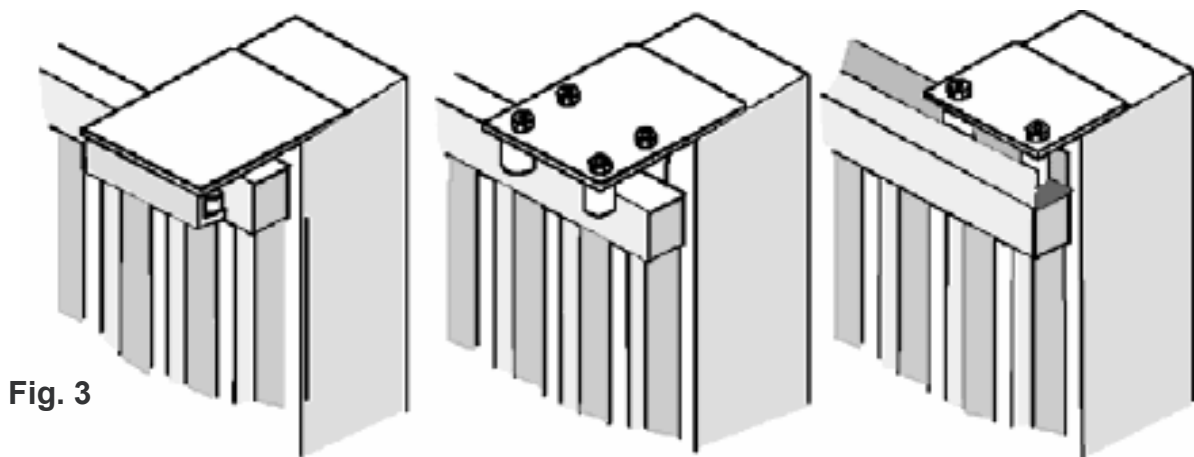

Fig. 3
- Also check that the runner on the ground (**Fig. 1**) is not deformed, is perfectly level and that the mechanical stop is present on opening (**Fig. 2**) in order to prevent the gate from going beyond the upper runners (**Fig. 3**)
- Check the upper runner (**see Fig. 3**) is firm and the gate slides freely.